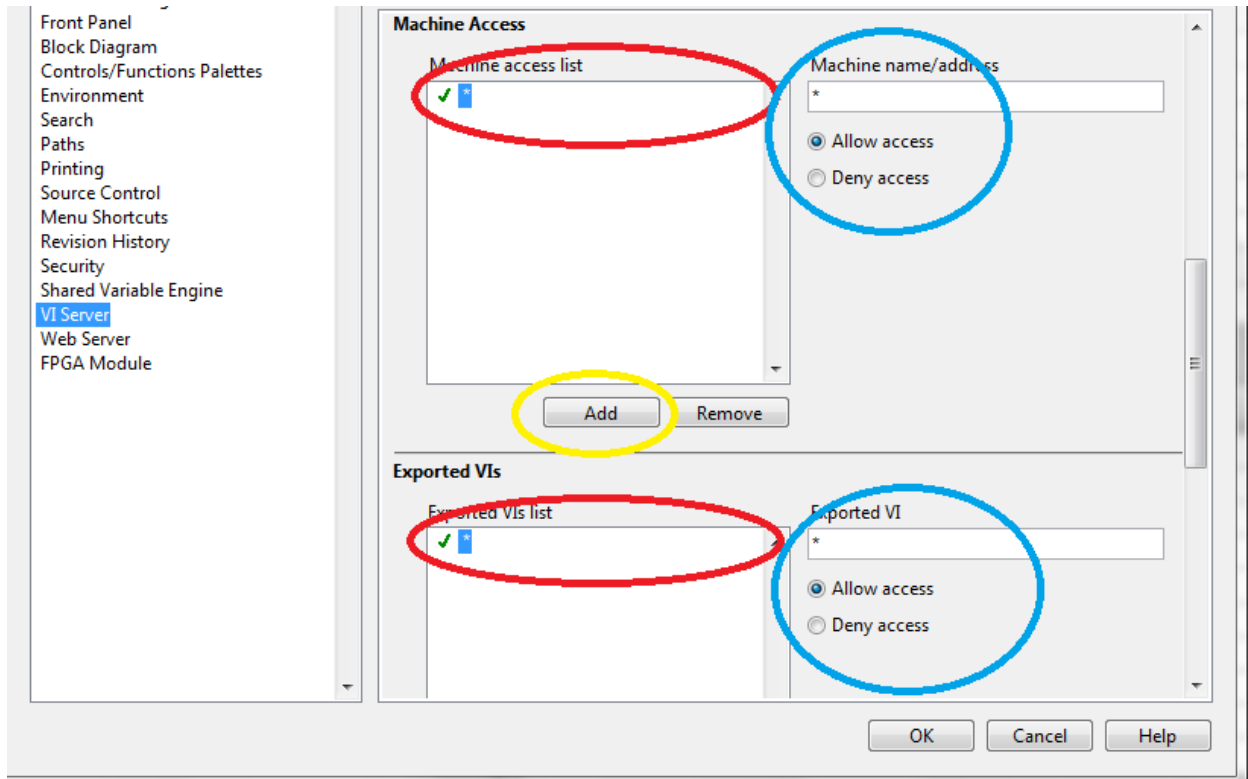

Figure A-3: Configuring machine access
- 3) Scroll down the menu to “Machine Access”. Type an asterisk (*) in the “Machine name/address box” (see blue circle in Figure A-3), make sure “Allow access” is chosen, then press the “Add” button (see yellow circle in Figure A-3). Do the same thing for “Exported VIs”. You should see a check mark next to an asterisk under “Machine access list” (see red circle). It’s okay if you have other items listed.